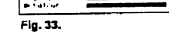

Fig. 33.
- Adjust the setting with **Δ** or **∇** and press **OK**. The cursor appears beside the next item (at the left margin). (See Fig. 33)